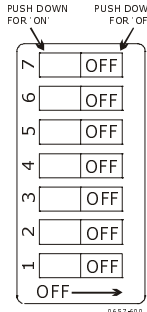

Figure 12: Dip Switch Run State
- All SW1 Dip Switches are in the Off position (Refer to Figure 12:)
- Place all Dip Switches in the Off position (Refer to Figure 12:) and place Jumper 2 in the Open State . Begin again with Step A) placing the system into Set-up Mode.